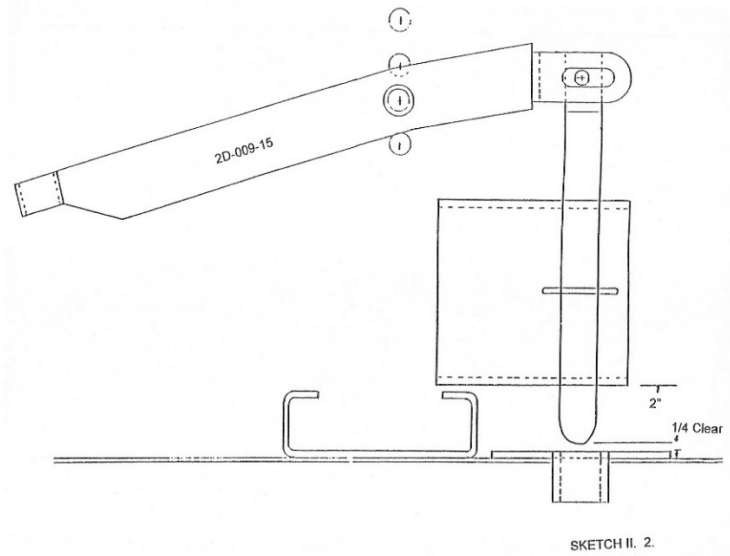

Figure 6
3. Bolt the new arm in place using the selected hole and the previously removed hardware. (Do not forget the bushing.) (See Figure 6)
- B. Tighten the eyebolt until the bottom of the lock pin is $\frac{1}{4}$ " above the lock receiver. (See Figure 6).